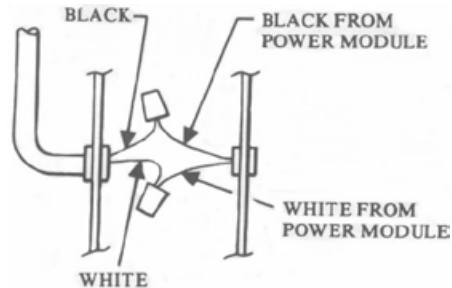
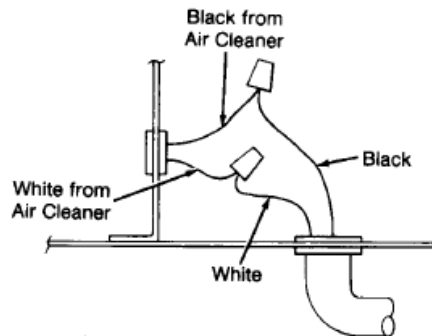

Figure 13: X-11Q Input Wiring
Figure 14: X-400 Input Wiring
4. For the X-11Q, connect the black and white wires from the pigtails in the air cleaner junction box to the corresponding colors in the supply circuit (Figure 13 – for X-11Q or Figure 14 – for X-400).